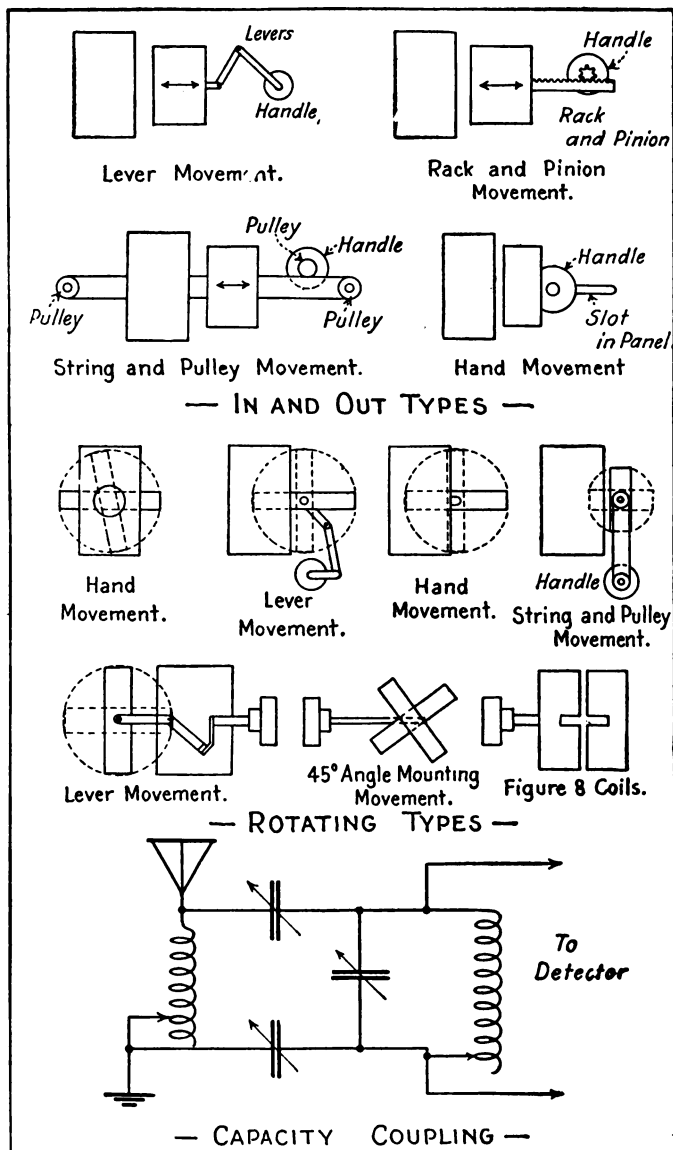

Fig. 8.—Various Ways in which the Coupling between Two Coils can be Varied.
Various methods of effecting the movement are given in Fig. 8.
B. Rotating Types. A number of ways to vary inductance by rotating one coil are given in Fig. 8. The coils can be wound on cylindrical or spherical forms. They can be separated considerably at maximum coupling, for very tight coupling is not essential. The coefficient of coupling need not exceed 5%.
A. Variation of mutual inductance. Any of the methods in Fig. 8, except the capacity coupling, can be employed by connecting the coils in series or parallel. Resulting effective inductance is given by the formulas in Section 5. It is necessary to have the coils as close together as possible in order to obtain a large variation. When the planes of the windings are at right angles, the mutual inductance is 0.